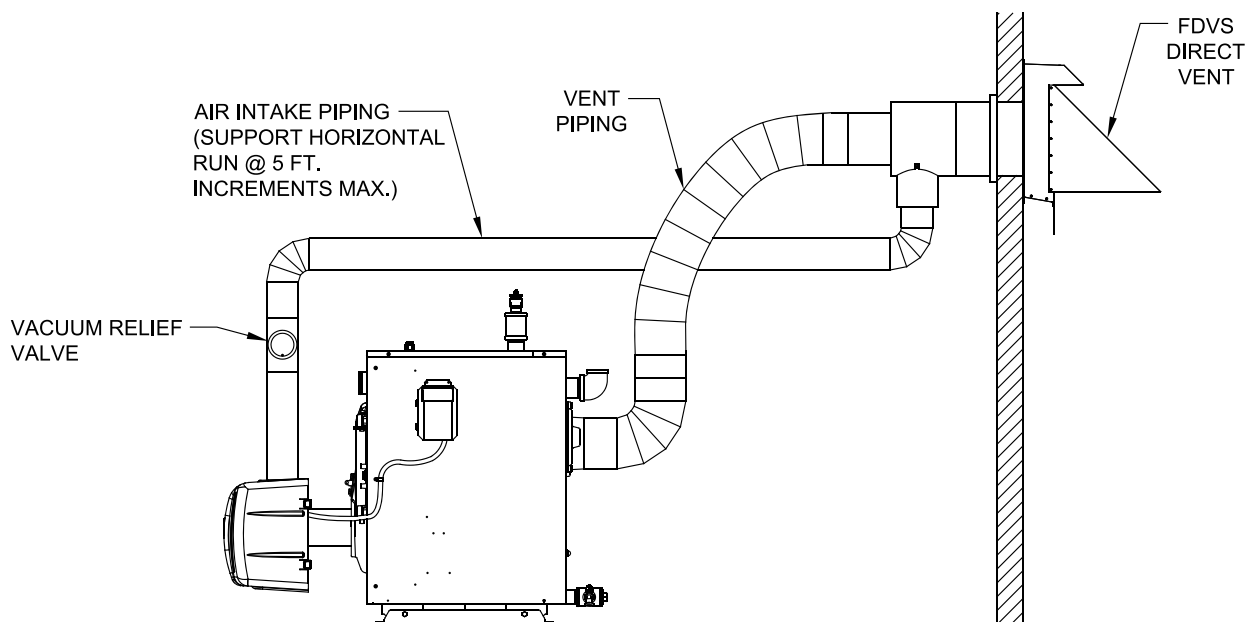

Figure 25: Install Air Intake Piping and Vacuum Relief Valve
1. Use 4" diameter galvanized single wall vent pipe and fittings, available at most heating distributors, to connect burner outside air adapter to Direct Vent Termination air intake collar. See Figure 25.